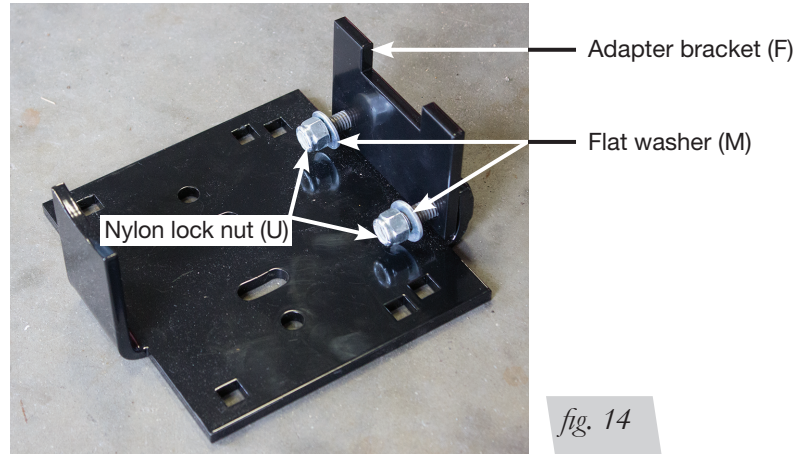

fig. 14
- For the late-model vehicles, there is no jounce bumper strike plate for the lower bracket to sit on. Therefore an adapter bracket has to be used to extend the lower bracket so it sits on the axle. Set the adapter bracket (F) over the existing studs in the lower bracket and cap with flat washers (M) and nylon lock nuts (U) (Fig. 14). Torque to 20 lb.-ft. (27Nm).